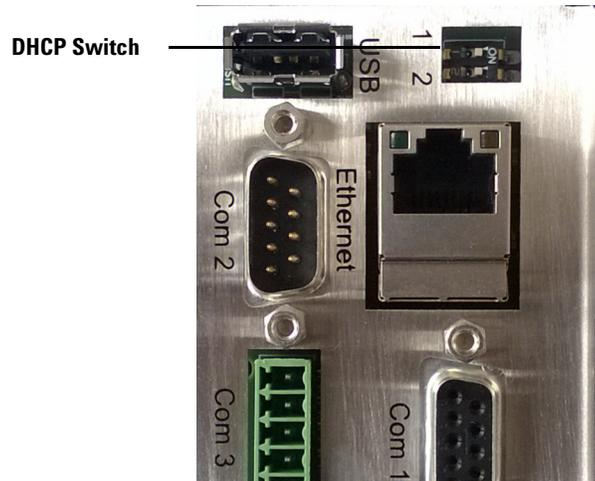

Figure 15 DHCP Switch
- 1 To complete this procedure, the Micro GC must be in static IP address Mode. To verify this, be sure the DHCP switch, is in the left position. The DHCP switch is located on the back of the main board. (See Figure 15).